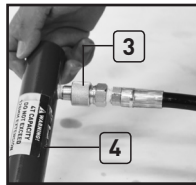

Fig.2
2. Align and connect the Hydraulic Hose w/Coupling (3) from the Pump Assembly (1) to the Ram (4) then fasten the coupling clockwise to tighten securely (Fig 2). Do NOT over-tighten.